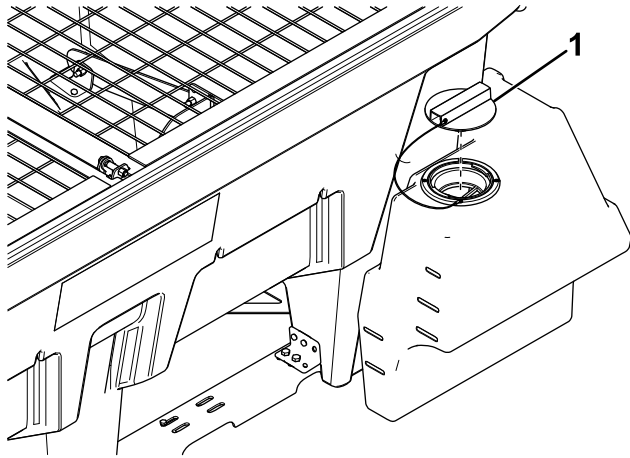

Figure 41
1. Clean around the tank cap (Figure 41).